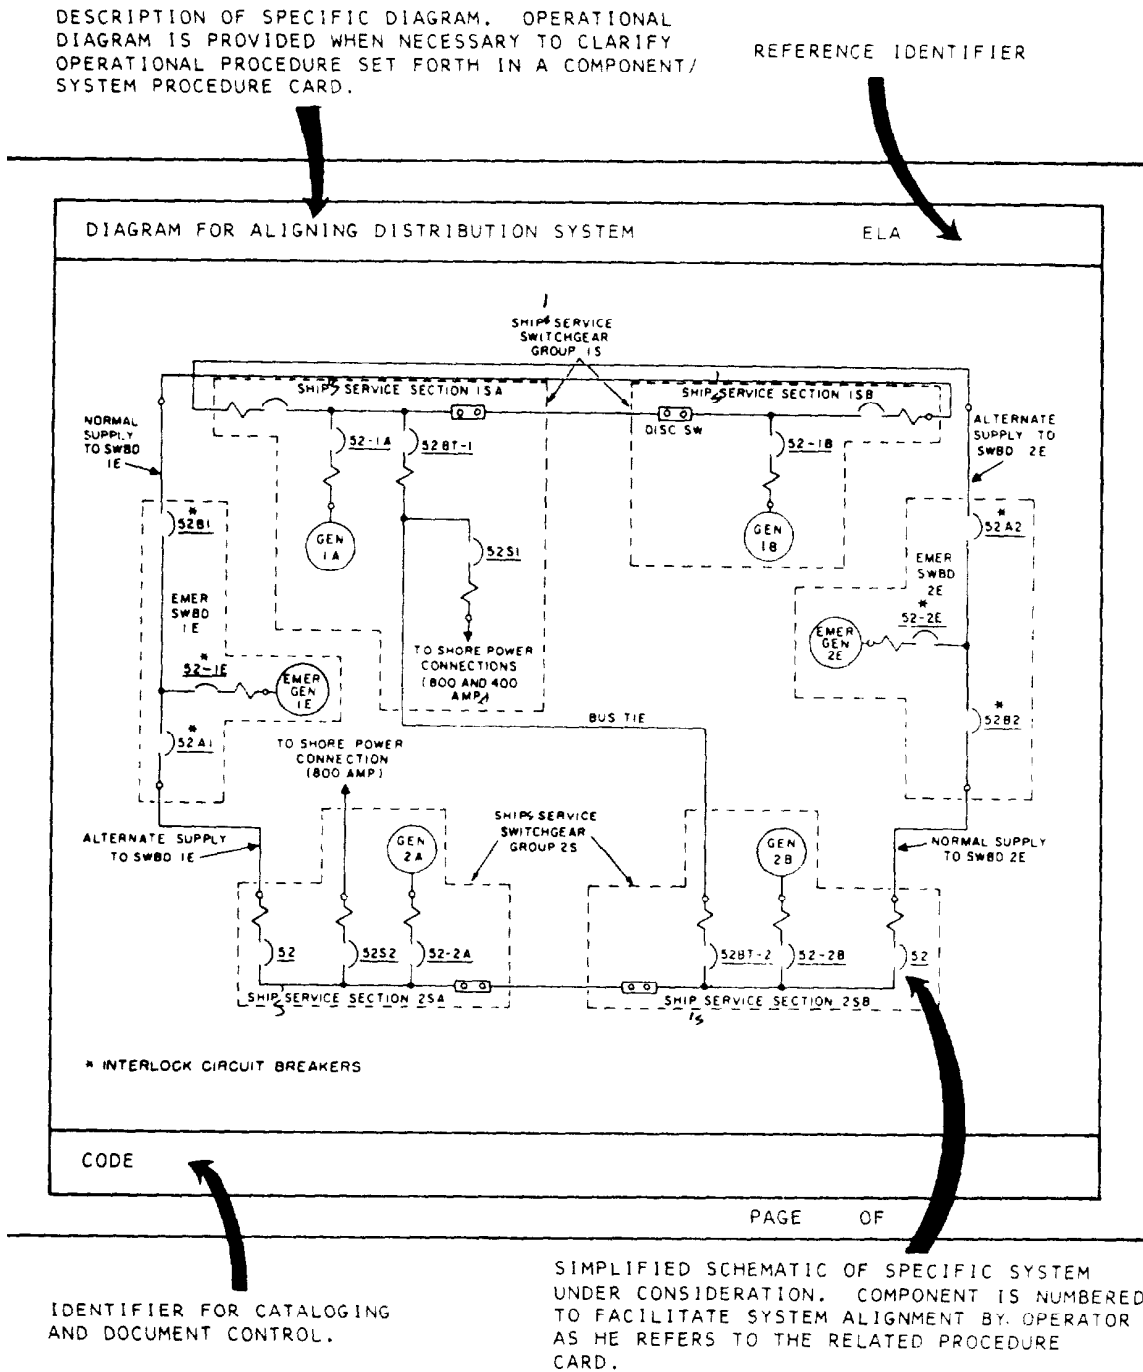

Figure 2-15.—Sample component/system alignment diagram.
- Alignment diagrams (fig. 2-15) amplifying the written procedure to assist the component operator in proper systems' alignment. Alignment